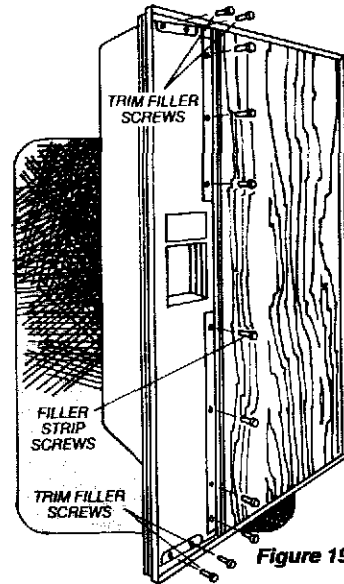

Figure 19
**E)** Remove the top and bottom trim fillers held on by the mounting screw(s). See Figure 19.
**F)** Remove the screws holding in vertical trim strip. See Figure 19.